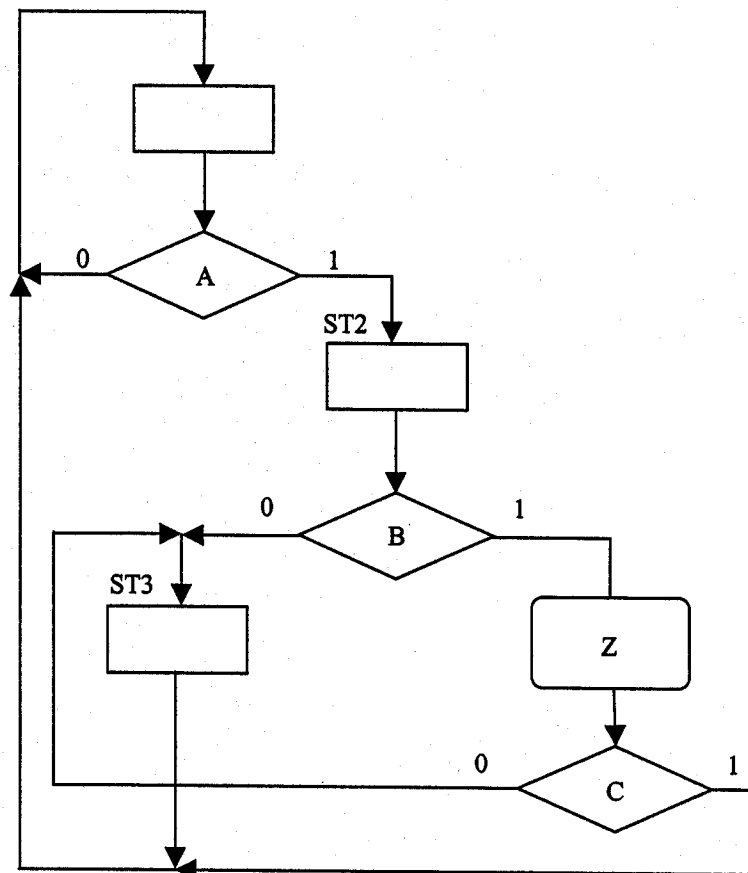

Figure 5
- (b) The diagram of figure 5 below shows an ASM chart. Assuming the initial state to be ST1 find the response of the system to the following sequence of inputs: